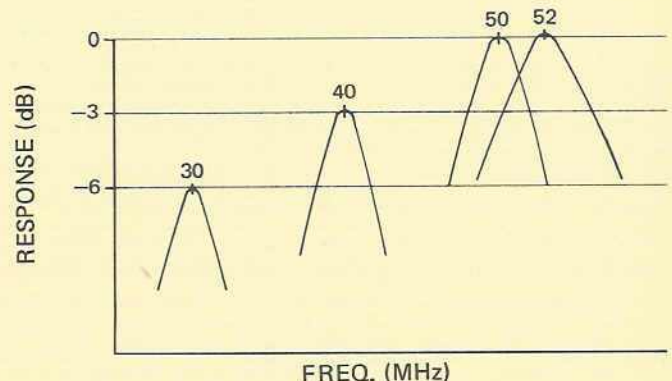

FIGURE 10.
Step 5: Make sure that the output curves are similar to Figure 10 (for channels 1 thru 4).
NOTE: If you change the connection from TP-3 to TP-1, you should see a display similar to Figure 10 curve.